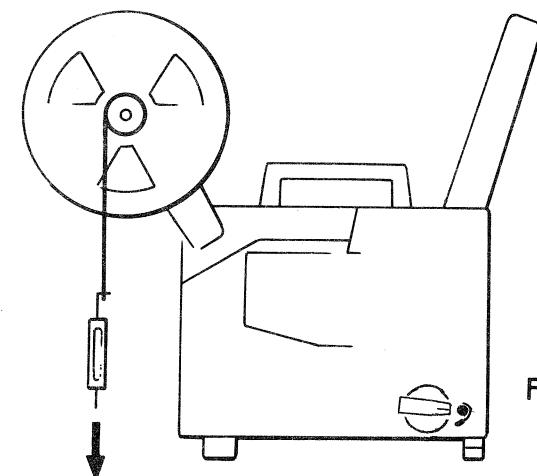

Fig.16
3. Adjust the fixing position of ⑤, so that ⑥ can be fully stretched and does not interfere with ⑦ or other parts.
\* Measurement of film rewinding power: Apply 800 ft reel to the square shaft assy (2), set to projecting state by winding 5 ~ 10 turns of film, and pull in the direction of arrow mark to measure with the bar spring scale (C067). (See Fig. 16.)